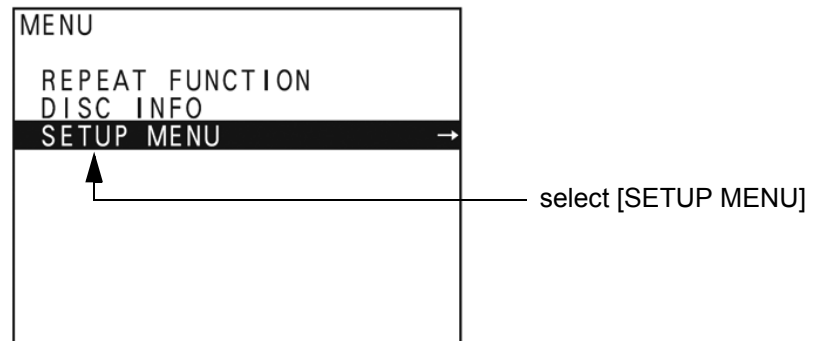

Figure 3-18 "Main Menu" - [SETUP MENU] highlighted
- 3.) The "Main Menu" appears on the LCD screen of the DVD recorder, see: Figure 3-18 below.